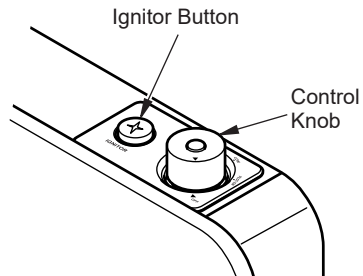

Figure 21 - Control Knob in the OFF Position
4. Wait five (5) minutes to clear out any air. Then smell for gas, including near the floor. If you smell gas, STOP! Follow "B" in the safety information above. If you do not smell gas, go to the next step.
5. Turn control knob counterclockwise ↶ to the PILOT position. Press in control knob for five (5) seconds (see Figure 21).